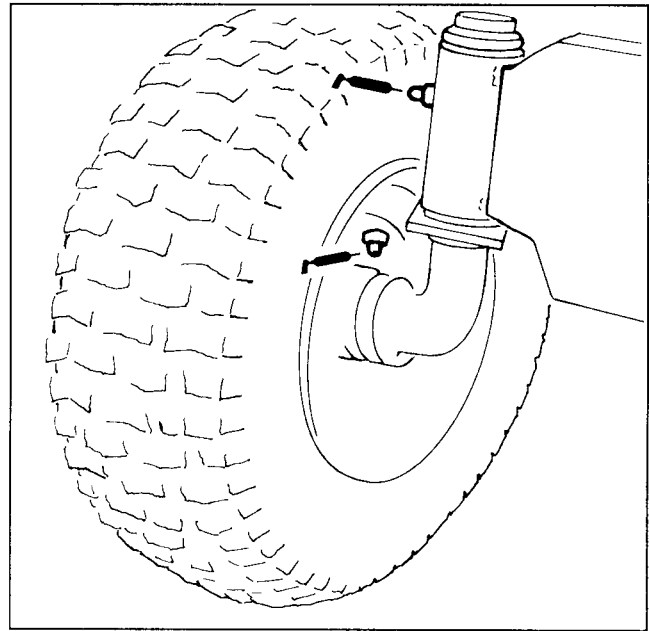

Figure 9
1. Wipe grease fittings on spindles and wheels (Fig. 9) with a clean rag. If there is paint on front of fittings, scrape it off.
2. Lubricate both axle spindles w/No. 2 general purpose grease (Fig. 9). Continue to pump grease until it oozes out the spindle. Wipe up any excess grease.
3. Lubricate both front wheels w/No. 2 general purpose grease (Fig. 9). Pump grease gun about four times. Wipe up any excess grease.